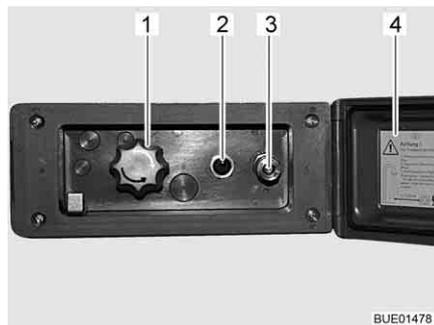

Fig. 161 External shower connection point
- Unlock and open the cover (Fig. 161,4).
- Attach hose of the external shower to the quick closure (Fig. 161,3).
- Switch on the water pump using the switch (Fig. 161,2).
- Adjust the water temperature with the rotary knob (Fig. 161,1) as desired.
- Switch off the water pump using the switch (Fig. 161,2).
- Close the cover (Fig. 161,4) and lock with key.
- Turn knob (Fig. 161,1) to the centre position.